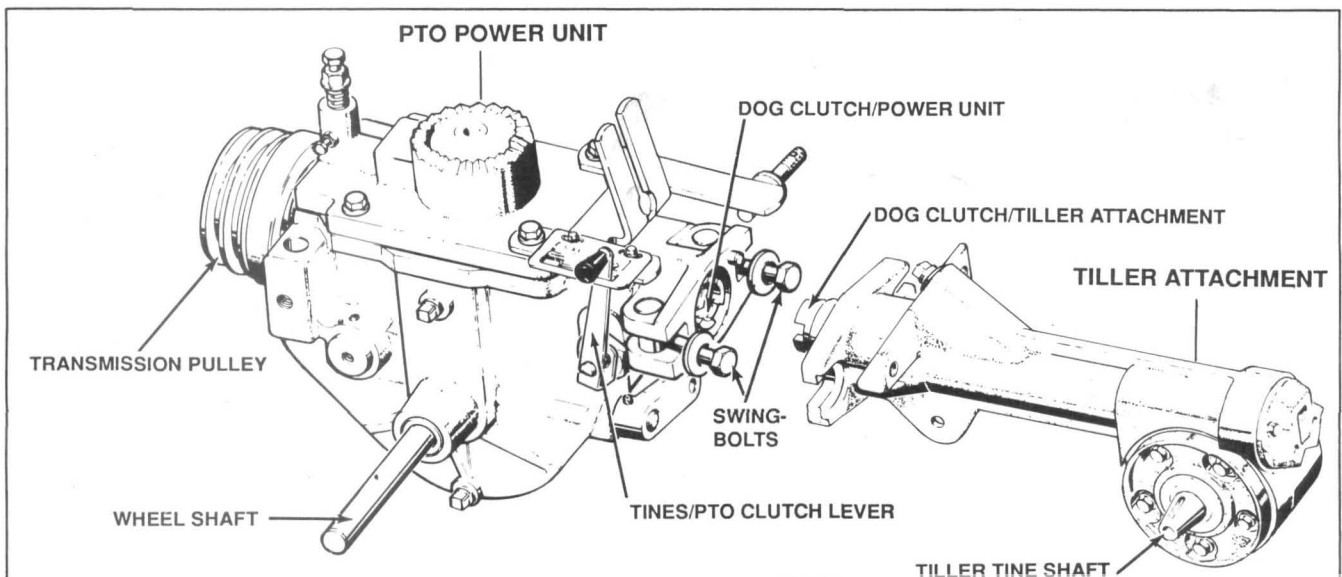

Figure 4-1: PTO Power Unit Transmission and Tiller Attachment Transmission
The PTO Horse Model transmission consists of two separate transmission assemblies: the PTO Power Unit transmission and the Tiller Attachment transmission (see Figure 4-1). The transmission housings are held together by a locking collar, a dowel pin and two swing-bolts.
2. Loosen the swing bolts (shown in Figure 4-1) that join the PTO power unit and tiller attachment.